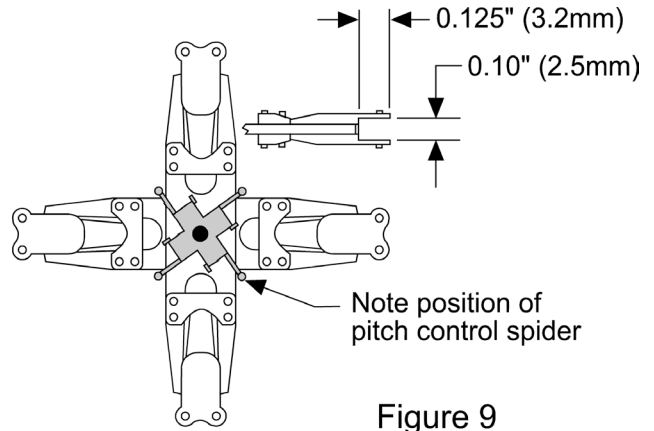

Figure 9
1. File a slot into each blade attachment point of the rotor head (part 11) as shown in Figure 9. Work carefully, since the tabs remaining will quite thin. Open up the half-round slots at the root of the hub.
2. Drill a 0.08" (2mm) hole completely through the centre of the pitch control spider (part 12). Cut a length of the 0.078" rod supplied to 0.5" (12.7mm) long and glue in place. Glue the top of this rod into the hole in the bottom of the rotor head, aligning it as shown in Figure 9.